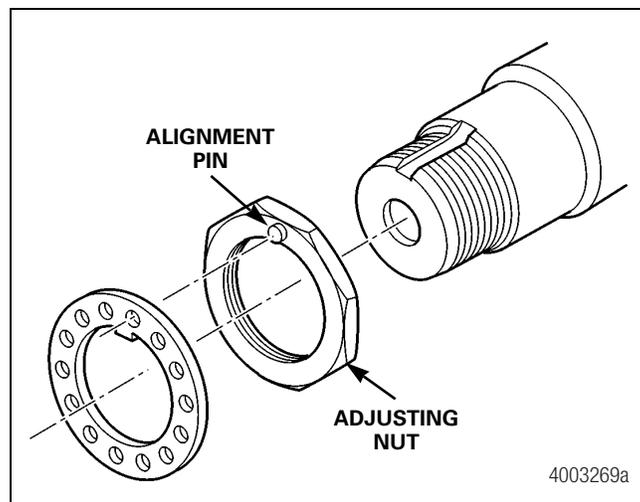

Figure 1
3. Verify the hole in the lock washer is aligned with the adjusting nut pin. Figure 1.
2. Verify the hole in the lock washer is aligned with the adjusting nut pin. Figure 1.